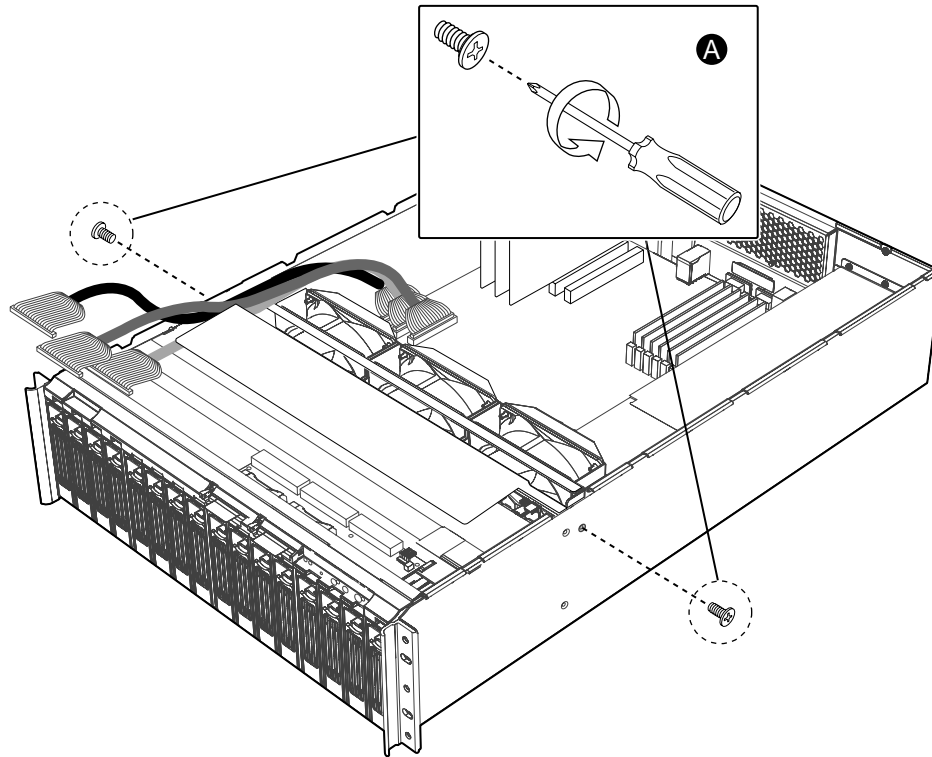

Figure 4. Removing Phillips Screws to Release the Fan Assembly
- A. Using a Number 1 size Phillips Screwdriver, remove the two Phillips screws (there is one screw on each side of the system) that hold the system fan assembly in place. See Figure 4. Set these screws aside. They will be re-installed later.